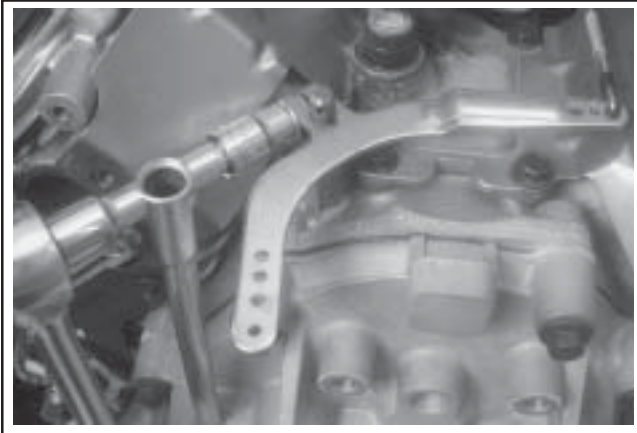

Figure 9-25. Removing Governor Lever.
1. Loosen the hex flange nut and remove the governor lever from the cross shaft. See Figure 9-25. Leave lever attached to the throttle linkage and lay assembly on the top of the crankcase.